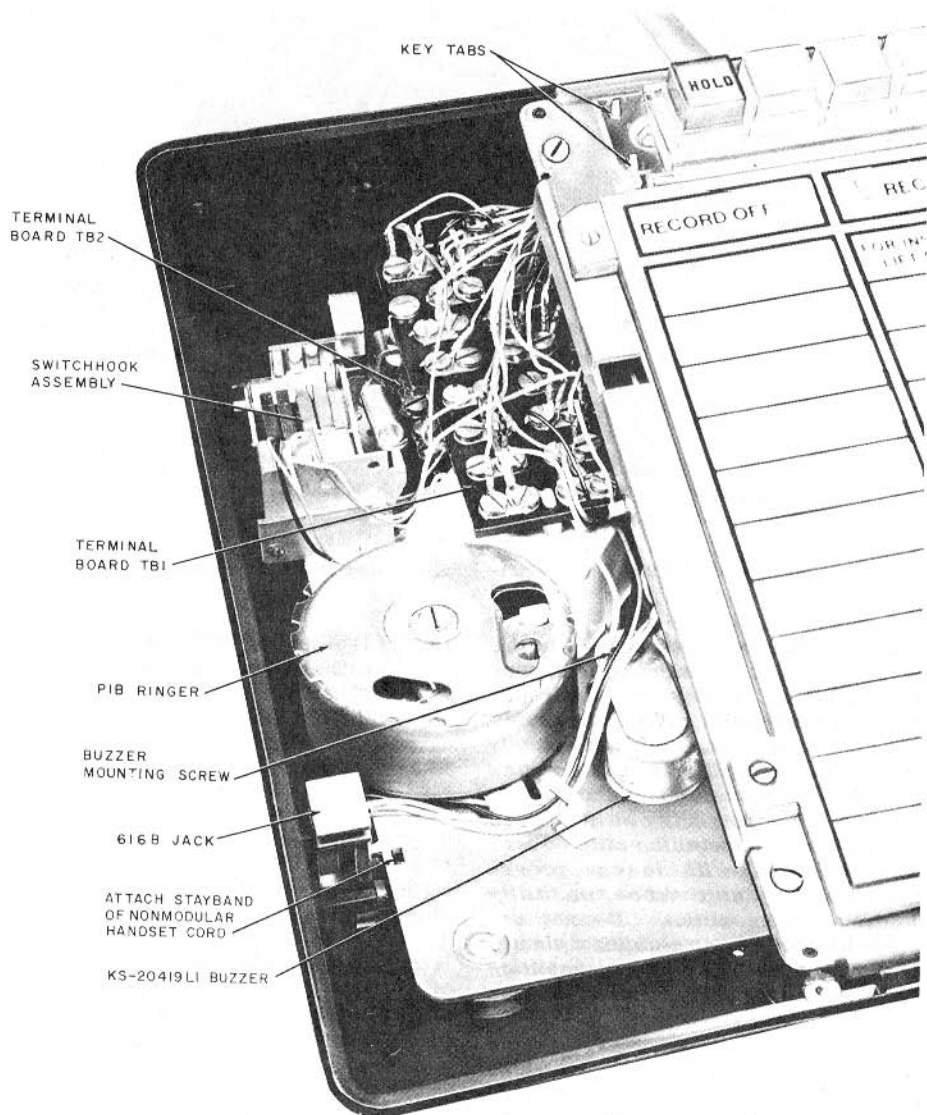

Fig. 3—2872A2M Telephone Set With Faceplate, Handset, and Handset Cradle Removed
- (a) Under the handset cradle (Fig. 3):